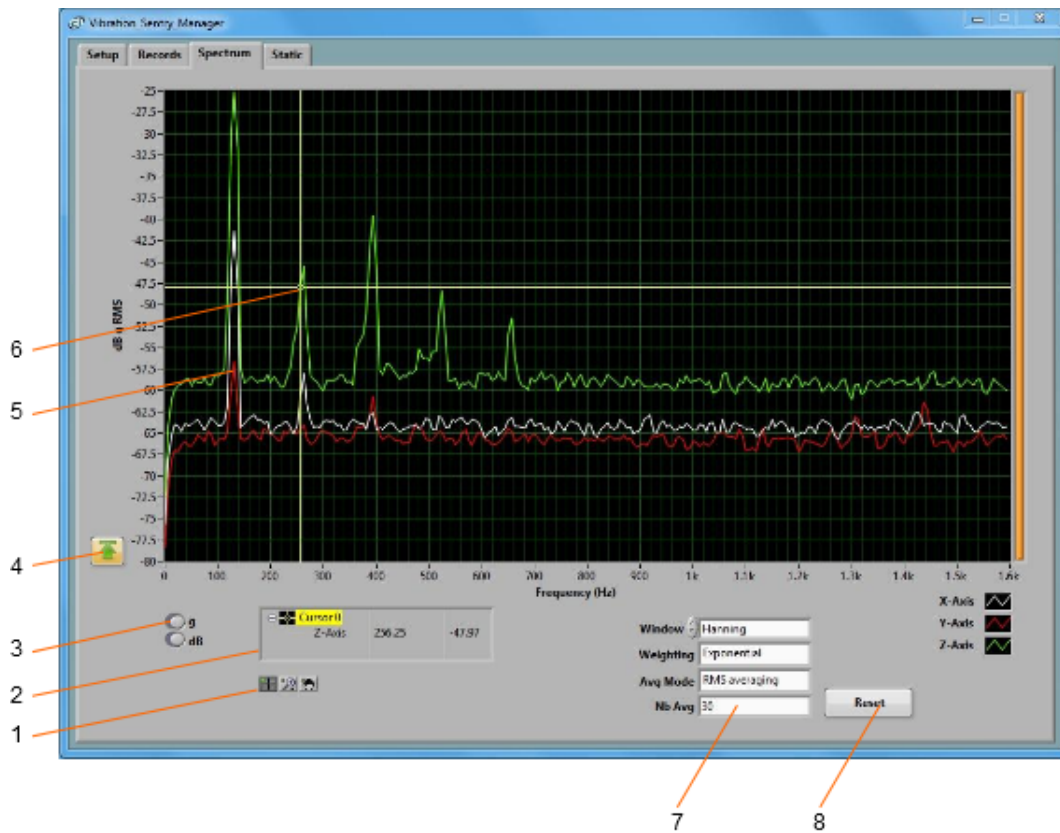

Figure 7 Spectrum Tab
- **The Spectrum Tab:** Is used to display real-time power spectra from the Vibration Sentry E (see Figure 7).